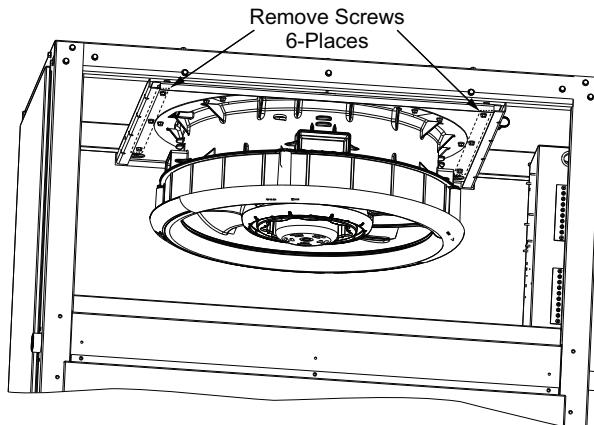

Fig. 47 – Remove Screws from Fan Deck Assembly
3. Remove six screws from the fan deck. See Fig. 47.